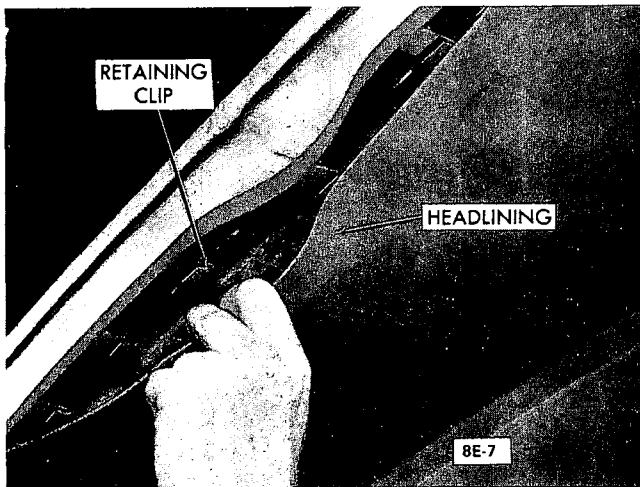

Figure 8E-7 Headlining Panel Removal
3. Slide headlining panel forward and out of retaining clips. See Figure 8E-7.
5. Remove headlining panel reinforcement bow by removing tape from bow and sliding bow rearward and off the headlining material. See Figure 8E-8.